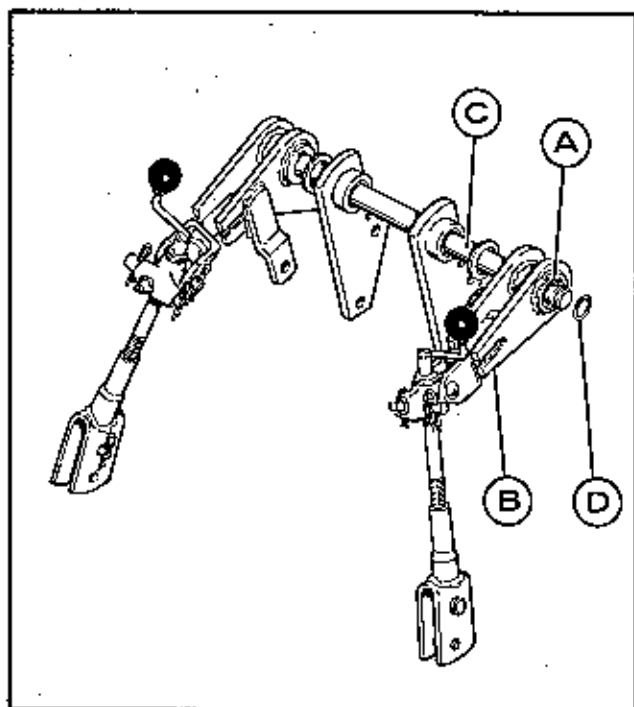

FIGURE 3
5. See figure 3. Be sure key (A) is in place. Line up the keyway in the right hand lift arm and link assembly (B) with the key in shaft (C) and slide the lift arm assembly onto the shaft as shown.
6. Install snap ring (D) which was removed in step 4, on shaft (C).